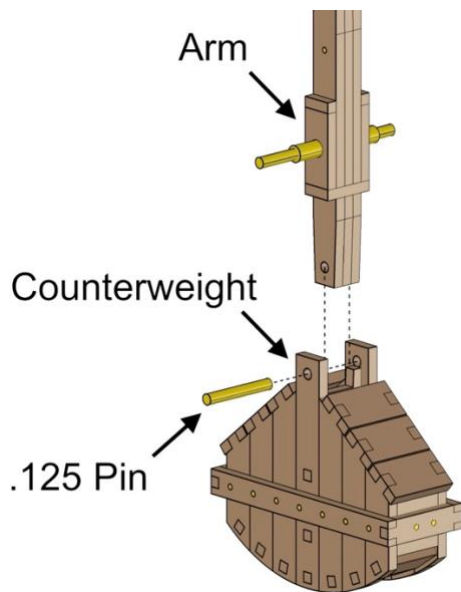

Fig. 88
- Align parts exactly as shown in *Fig. 88*.